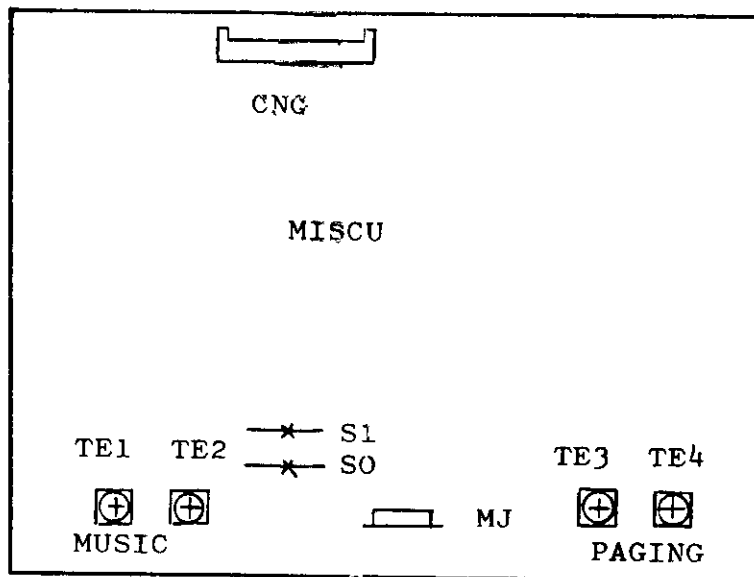

Fig.8 MISCUC Card
4. Insert one end of the flat cable furnished with the MISCOU card into the connector "CNG" on the MISCOU card (Fig.8).
3	Connect the cable to the terminals TE1 and TE2 on the MISCUC card (Fig.8).
5	Cut two wires marked "S0" and "S1" on the MISCUC card apart from each other (Fig.8).
3	Connect the cable to the terminals "TE3" and "TE4" on the MISCU card (Fig.8 of Section 3.4).